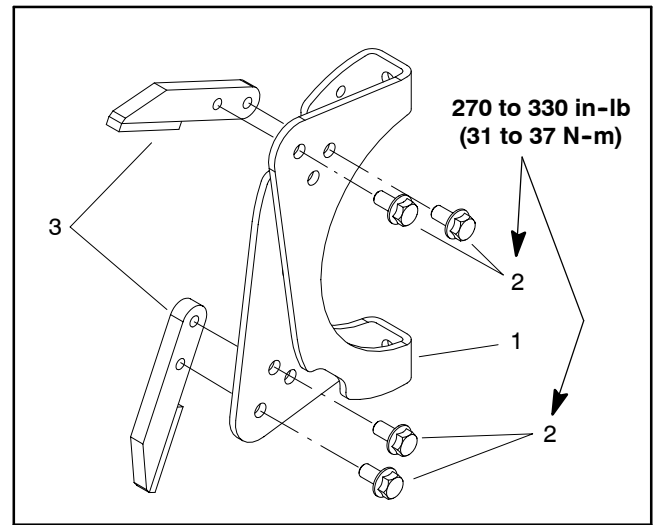
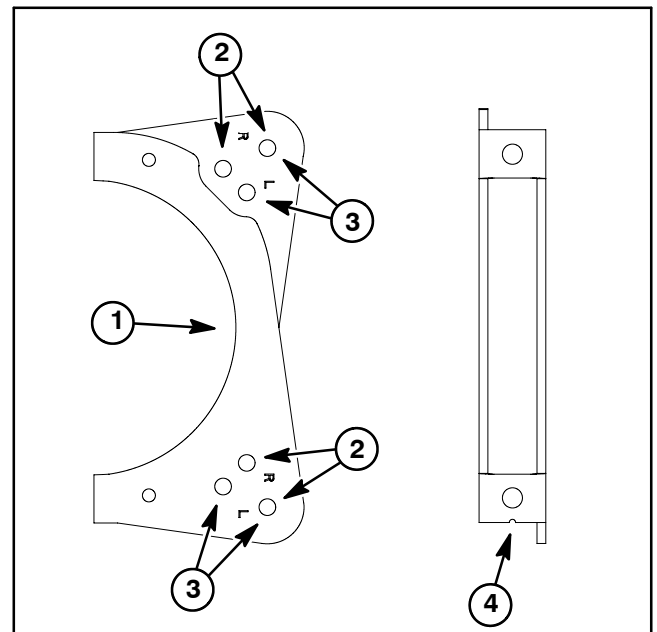

Figure 17
Figure 18
**NOTE:** The RH and LH blade assembly use the same blade but differ in which holes are used to mount the chopper tip to the blade (Fig. 18). Blades that have the chopper tips mounted toward the right side of the machine are RH assemblies. Blades that have the chopper tips mounted toward the left side of the machine are LH assemblies (shown in Fig. 17). Before removing chopper tip from blade, note which blade holes are used for proper attachment of chopper tip.
2. To remove chopper tip(s) from blade, use a ratcheting box wrench to remove two (2) screws that secure tip to blade.
3. To remove chopper blades from chopper axle, remove two (2) cap screws and lock nuts that secure right and left blade assemblies to axle. Remove blade assemblies. Note that notch on both blades align (Fig. 18).
2. Secure chopper tip(s) to correct holes of chopper blade with two (2) screws. Torque screws from **270 to 330 in-lb (31 to 37 N-m)**.
3. If blades were removed from axle, secure RH and LH chopper blades to chopper axle with two (2) cap screws and lock nuts. Make sure that notch on both blades align (Fig. 18).